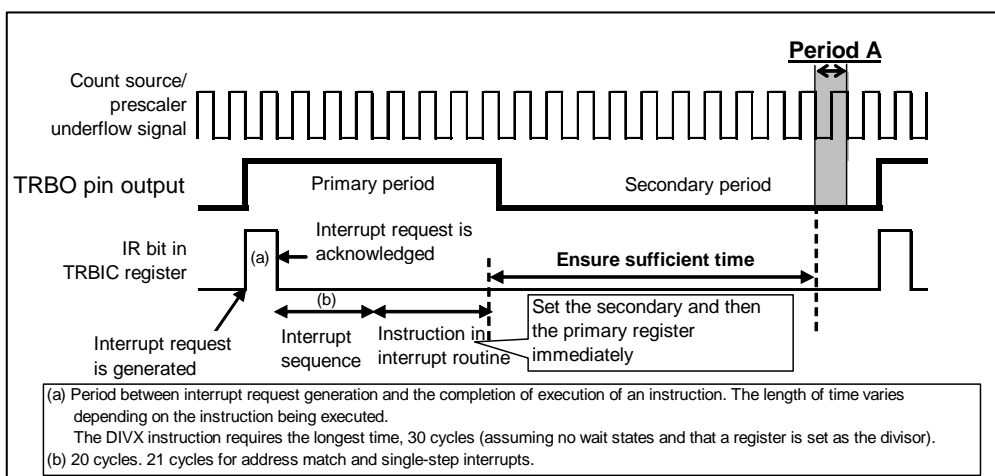

Figure 7 Workaround Example (1) When Timer RB interrupt is Used
2. To change registers TRBPRES and TRBPR during count operation (TCSTF bit is set to 1), synchronize the TRBO output cycle using a timer RB interrupt, etc. This operation should be performed only once in the same output cycle. Also, make sure that writing to the TRBPR register does not occur during period A shown in Figures 7 and 8.
Workaround example (1): As shown in Figure 7, write to registers TRBSC and TRBPR in the timer RB interrupt routine.